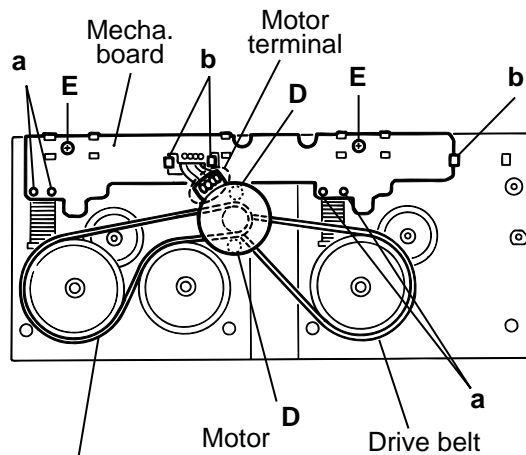
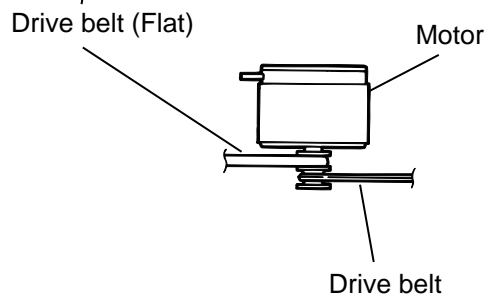

Fig.5
Fig.6
Be careful to grease's splash when the drive belt comes off.(Fig.5, Fig.6)
2. Unsolder the motor terminal.(Fig.5)
1. Unsolder the four parts **a** on the solenoid coil terminal.(Fig.5)
2. Remove the two screws **E** fixing the board.(Fig.5)
3. Unhook the three parts **b** from the board.(Fig.5)
4. Remove the mechanism board.(Fig.5)